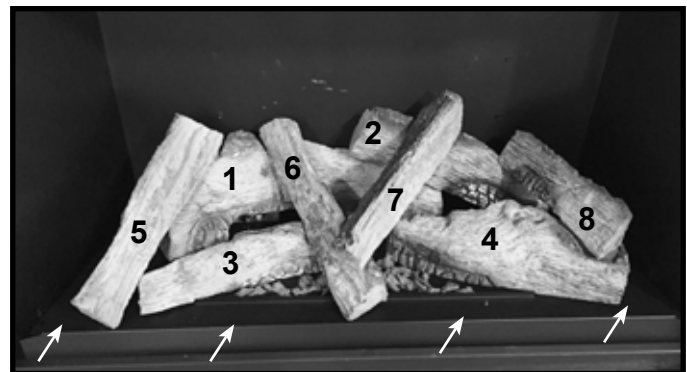

Figure 13. Install Top Right Log and Lava Rock Locations
- The top right log (8) will rest on two voids shown in Figure 12, install log by placing it on top of these voids. See Figure 13.
- This product is shipped with a bag of Lava Rock. Approximately one third of the bag will be used for initial setup, the remainder should be placed in the manual bag assembly and left with the homeowner. Do not store beneath the appliance. Install Lava Rock by placing it (by hand) in the locations denoted by arrows in Figure 13. Care should be taken to avoid placing lava rock on the burner.